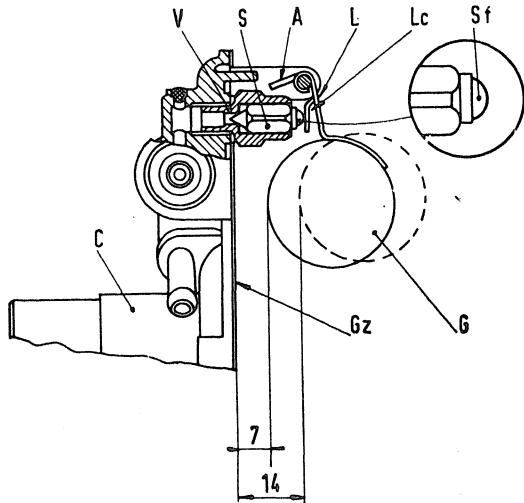

Fig. 546 - Diagram and data for float levelling.
Check that needle valve (fig. 546) (V) is screwed well tight in its seat.